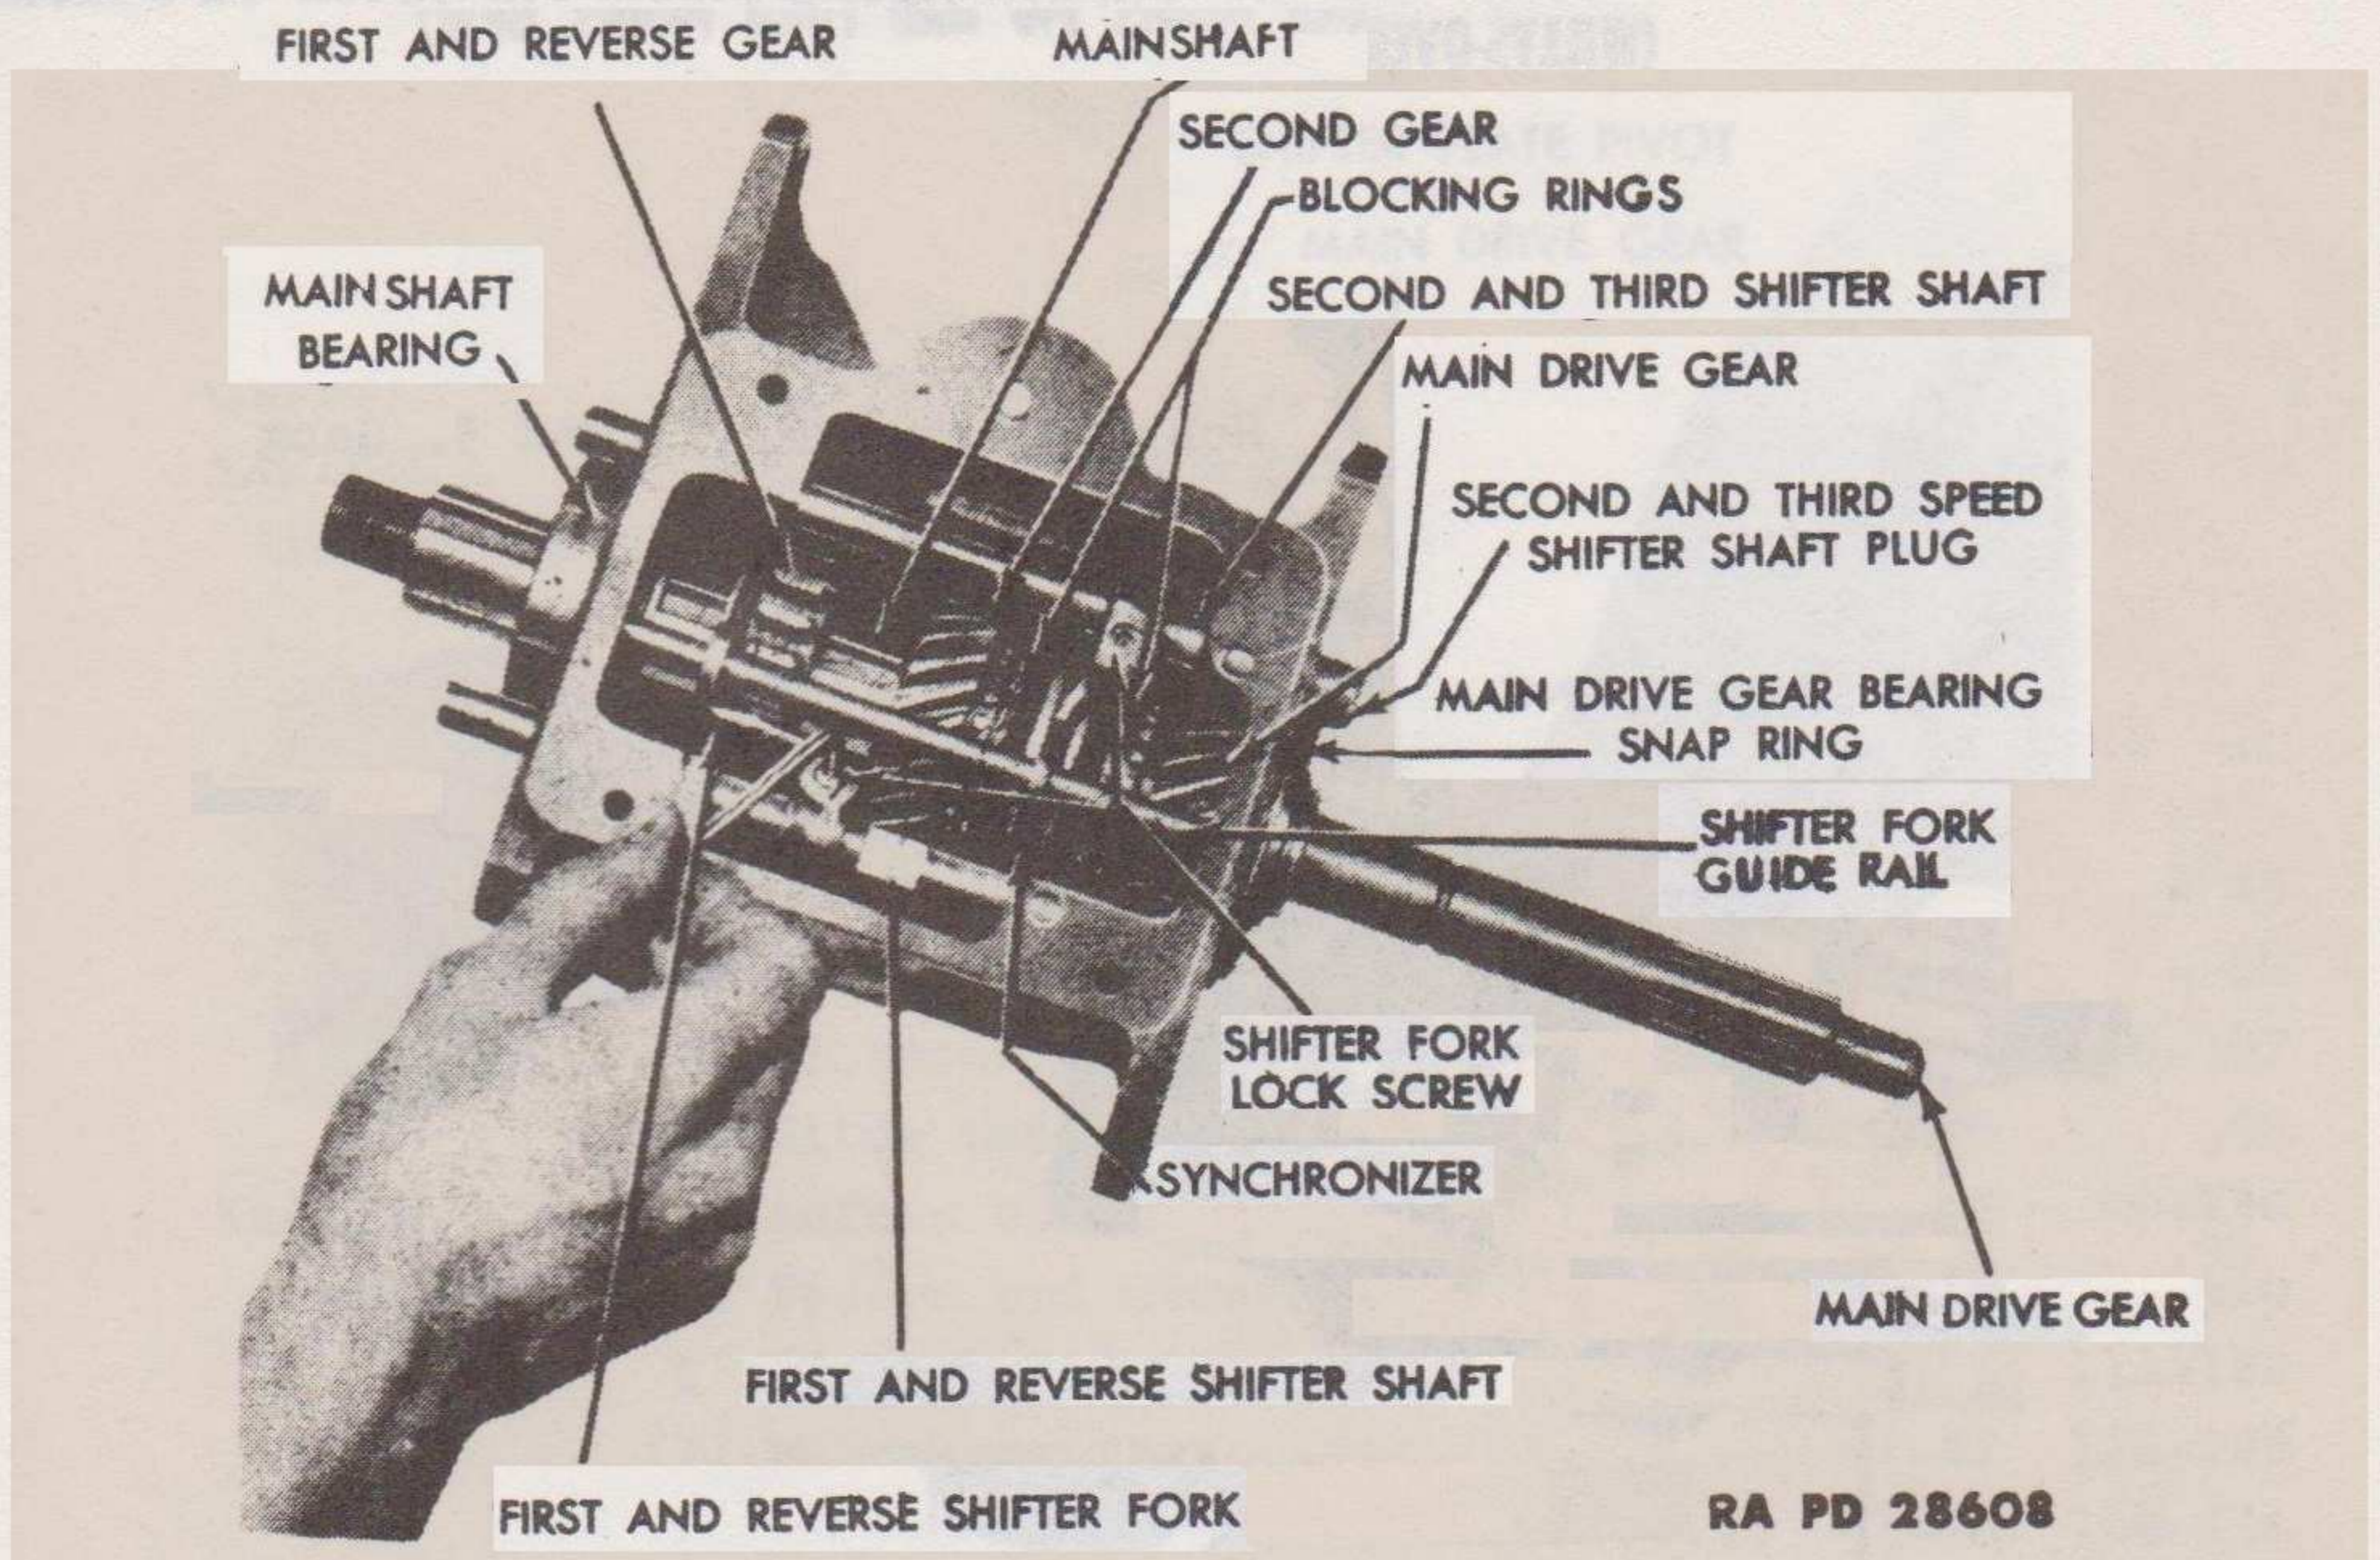
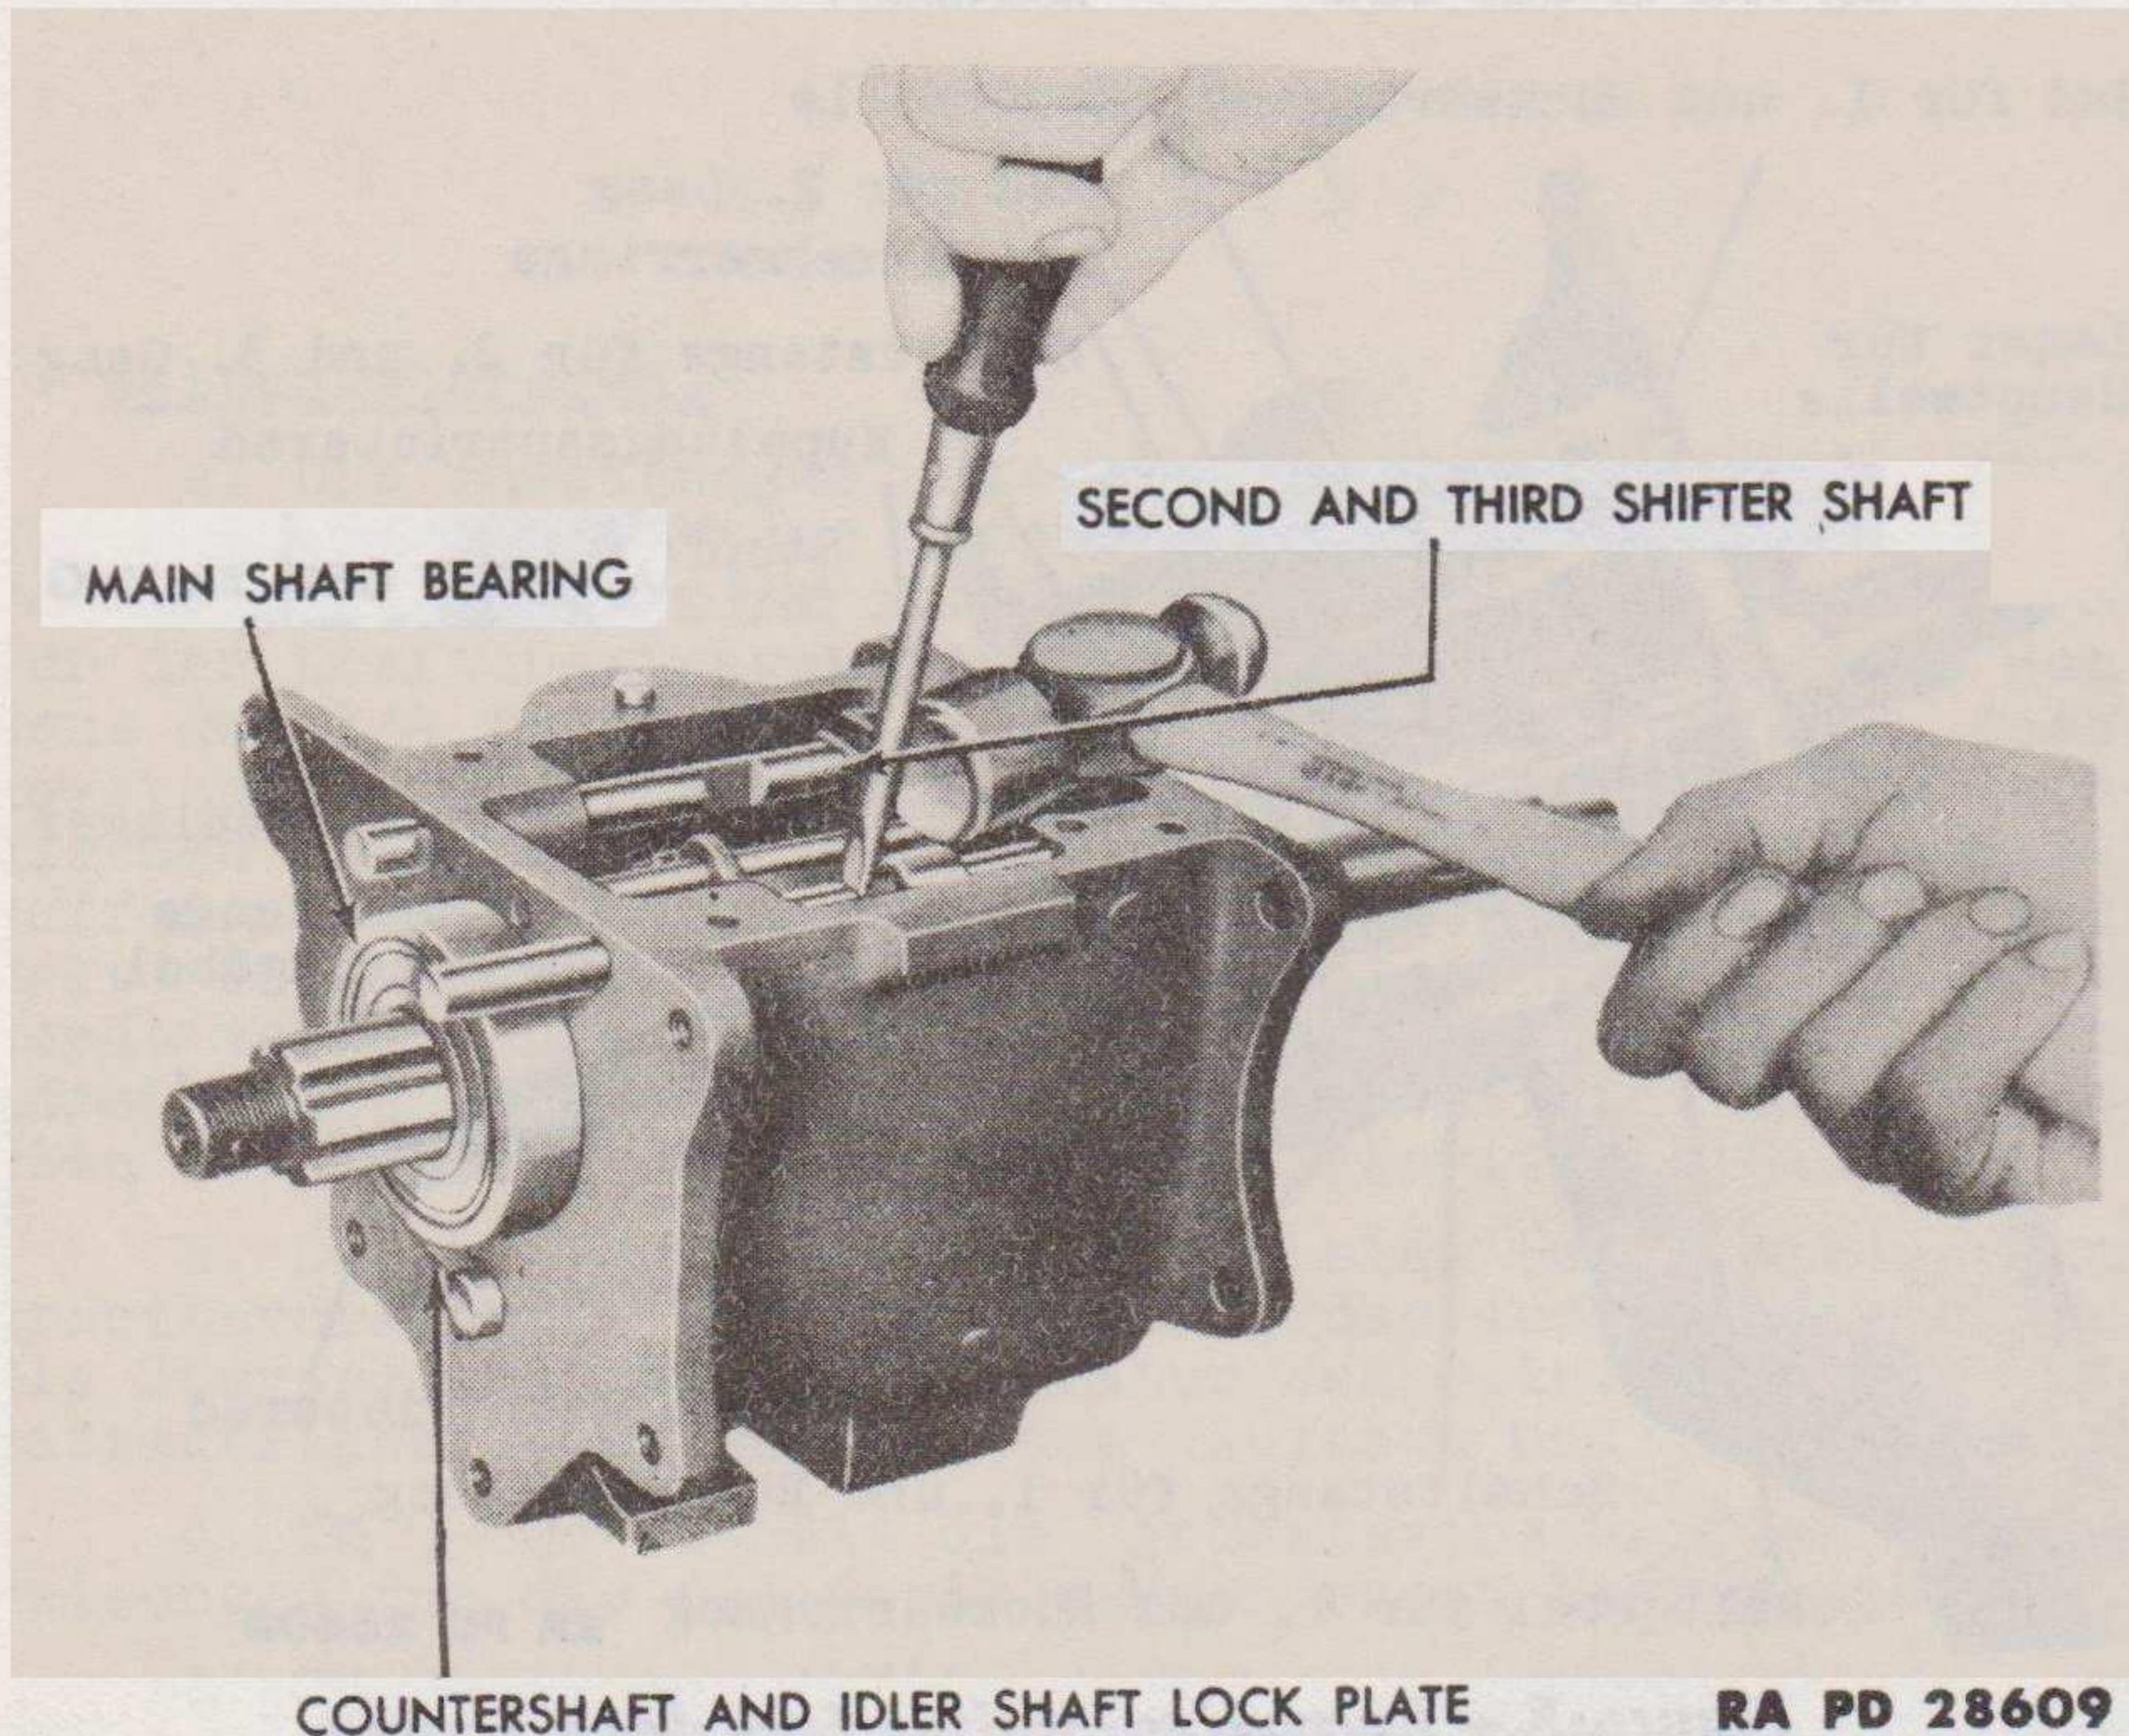

Figure 8 — Removing Shifter Fork Lock Screws
Figure 9 — Removing Shifter Shafts
c. **Remove Shifter Fork Guide Rail** (fig. 8). Push the shifter fork guide rail out of the transmission.
d. **Remove the Low and Reverse, and the Second and High Shifter Forks.** Remove the shifter fork lock screw from each fork (fig. 8). Tap the shifter shafts part way out of the transmission (fig. 9), being careful not to lose the interlocking ball in each shaft. Hold the shifter fork and pull the shafts from the transmission.
f. **Install First and Reverse Shifter Fork (fig. 8).** Hold the first and reverse shifter fork in position on the first and reverse gear, and slide the low and reverse shifter shaft (short shaft) into the case about half way. Drop an interlock spring and ball in the pocket. Press down on the ball and push the shifter shaft all the way in the case. Line up the groove of the shaft with the shifter fork and install the lock screw.
g. **Install Second and Third Shifter Fork (fig. 8).** Repeat the same procedure as used in installing the low and reverse shifter fork, and then push the guide rail into the case and through both shifter forks.